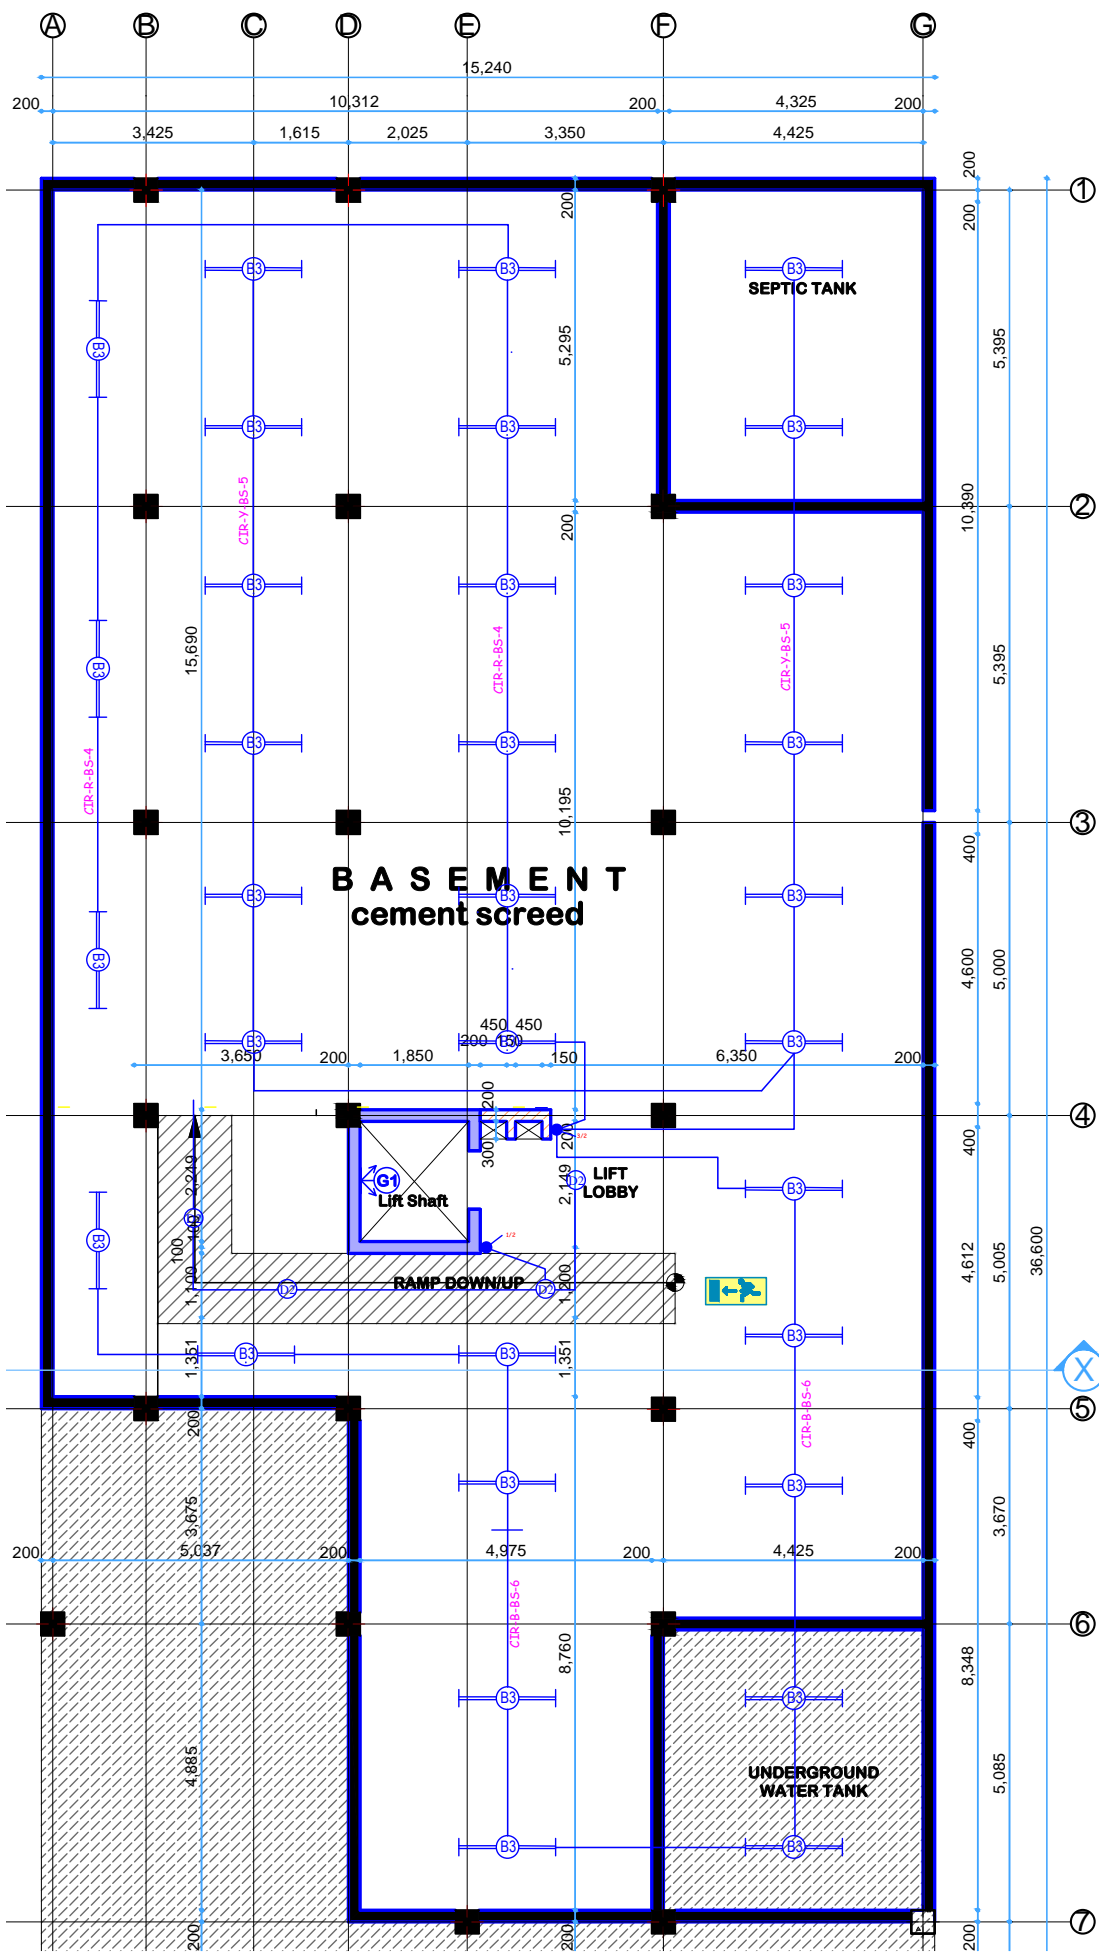
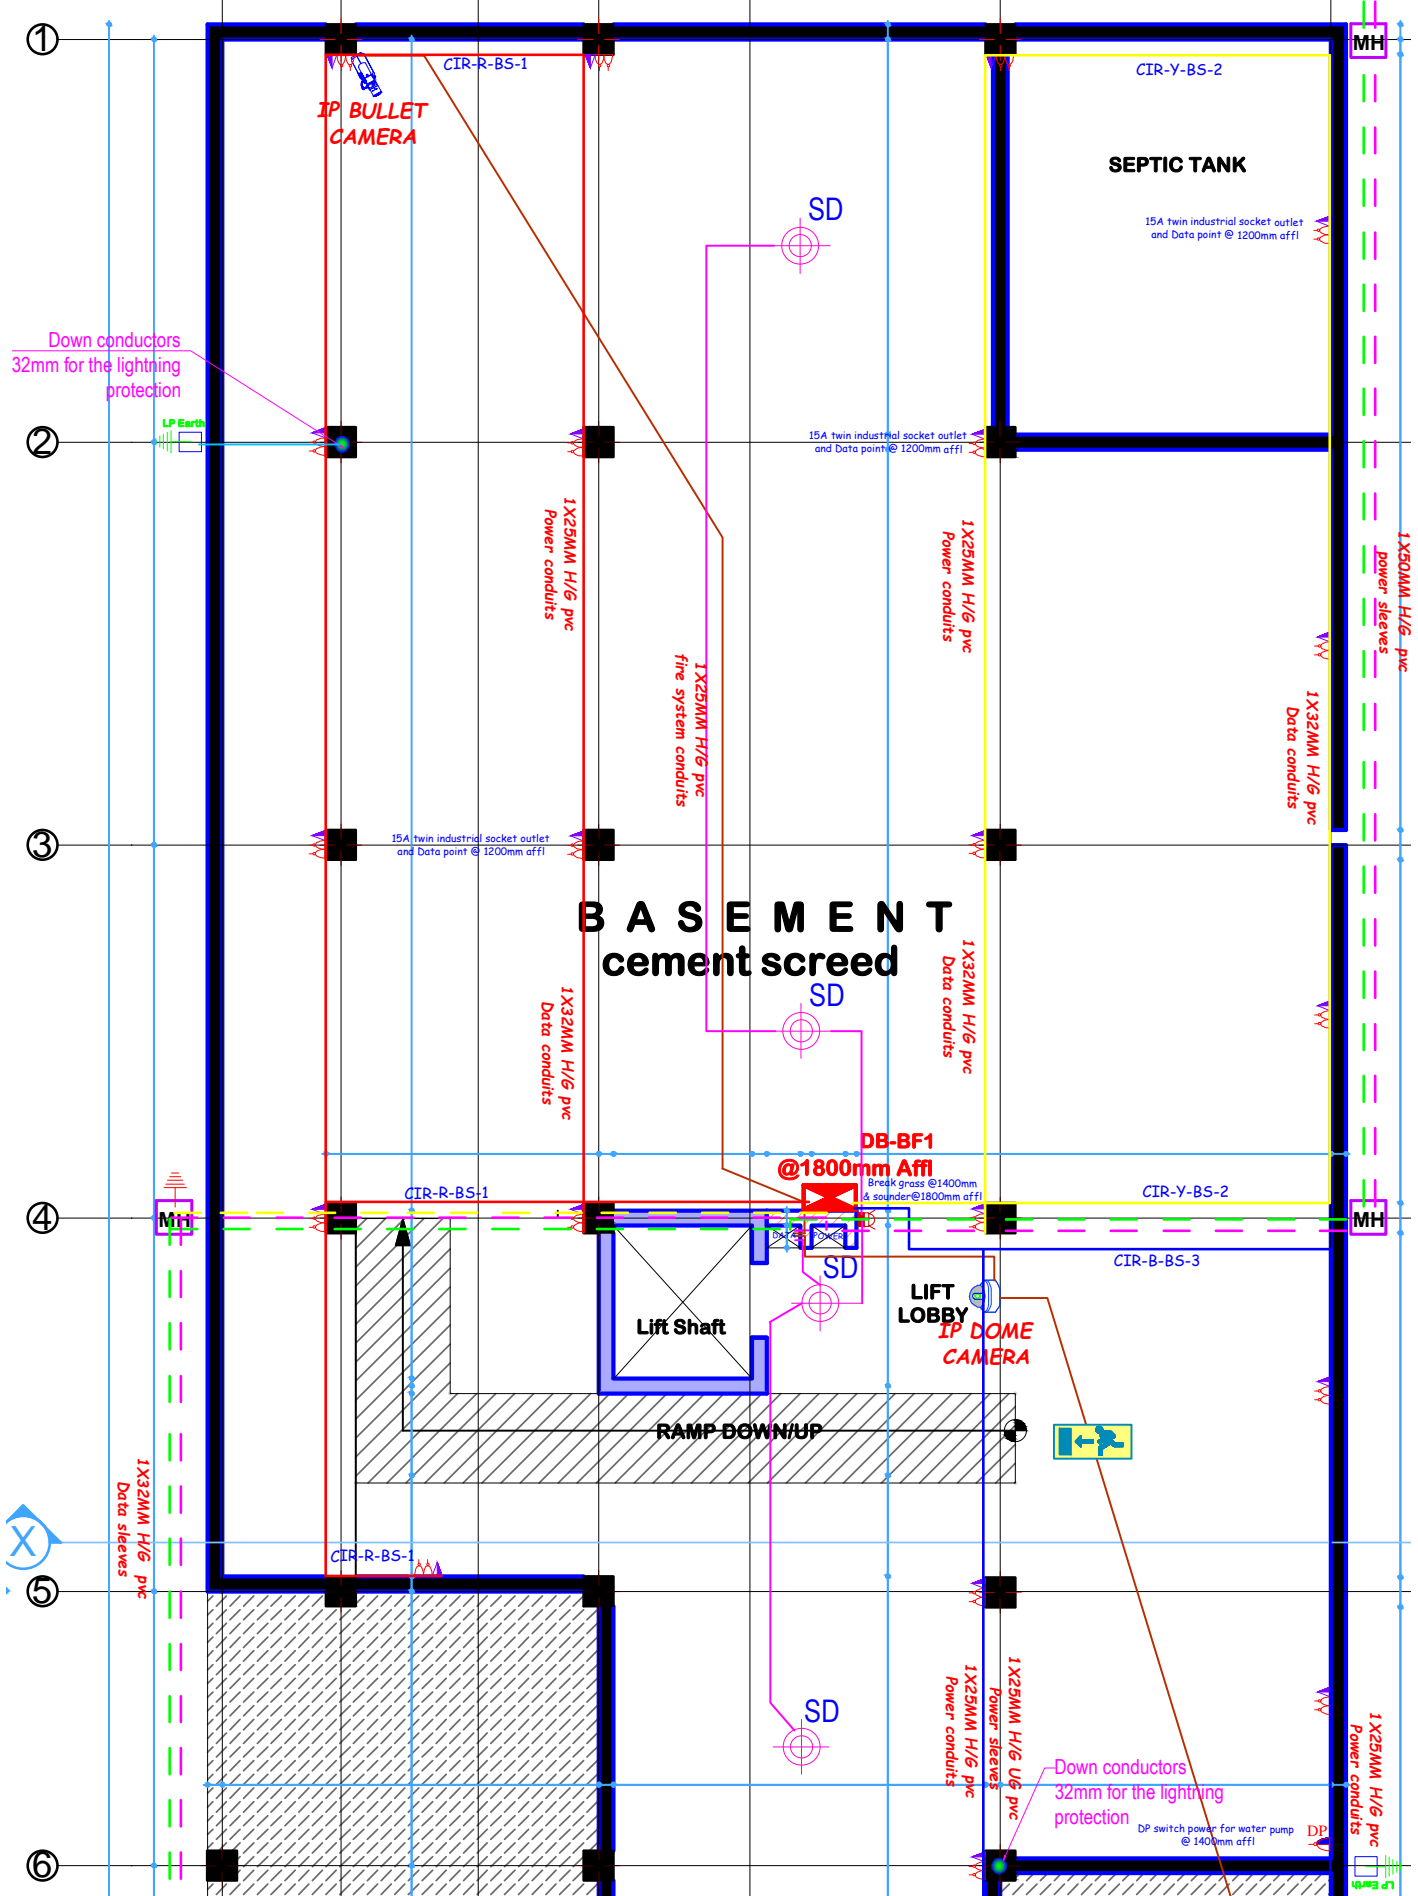

Fig. 1 Lighting
Fig. 2 Power
Fig. 1 shows the lighting installation for a proposed building basement floor. Fig. 2 shows the electrical power installation for the same basement floor and Fig. 3 shows the description of the symbols used in Fig. 1 and Fig. 2 and copper cable ratings.
Use the information contained in Fig. 1, Fig. 2 and Fig. 3 to answer the following questions.
- (a) Use the basement floor wiring diagram for lighting and sockets shown in Fig. 1 and Fig. 2 to split the lighting and socket supply into separate circuits and propose suitable cable sizes to supply the lighting points or sockets for the proposed circuits. Prepare a table similar to Table Q2 shown below and use it to calculate the fuse/circuit breaker ratings for the basement floor lighting and power circuits.